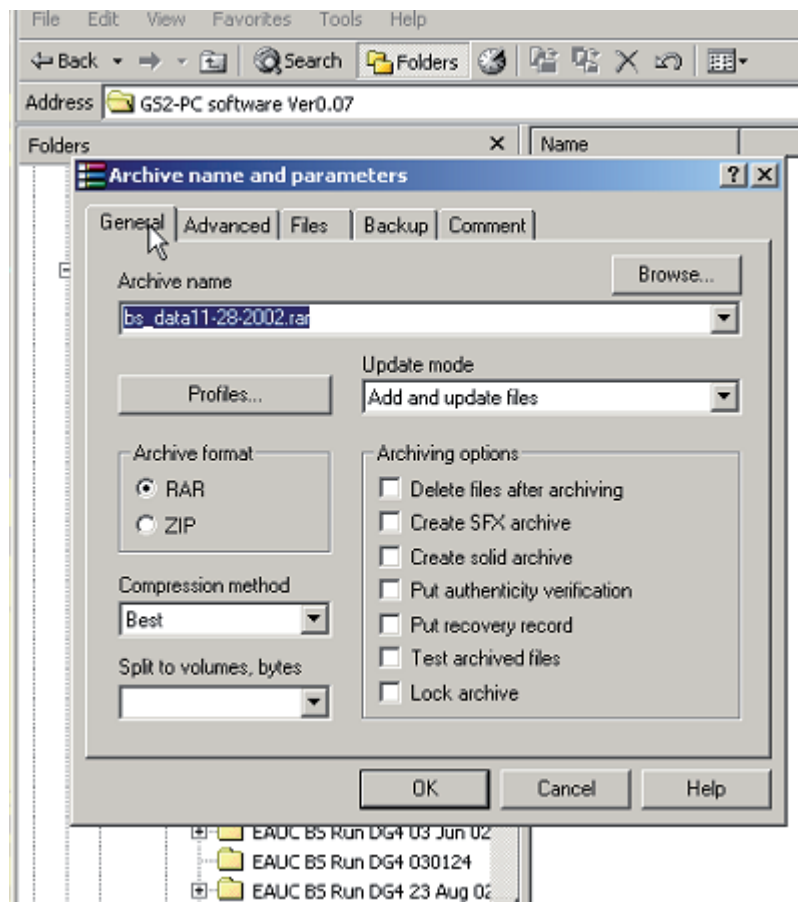

Fig 3.7.
- 3) Click "OK" (refer to Fig 3.7.) and the data file *.log will be automatically compressed and a new file *.rar with the same prefix-file name will be created.